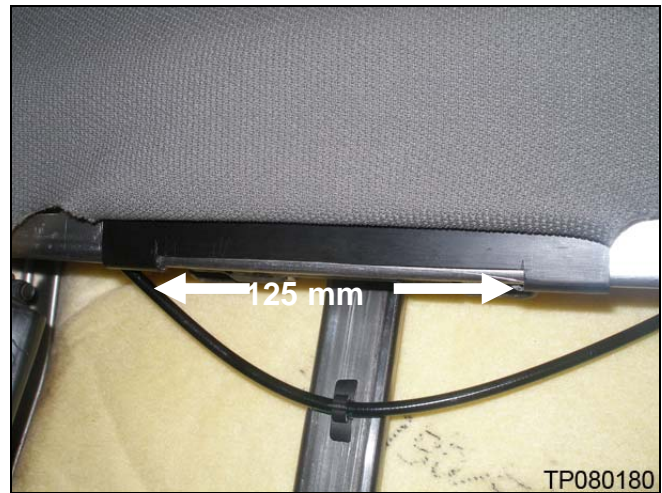

Figure 7
7. Make 2 cuts approximately 38 mm (1.5 inch) in from each end of the J-clip, and then cut across horizontally 125 mm (4.92 inch) connecting the 2 vertical cuts. See Figures 7 and 8.